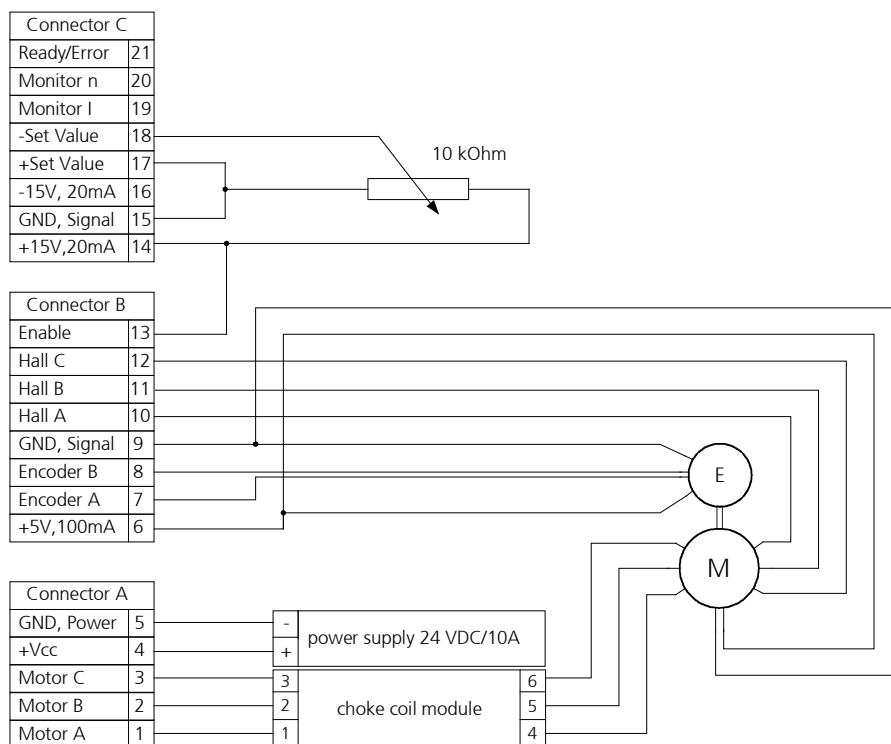

Figure 14
1. Connect the motor cables with a motor control unit (see Figure 14).